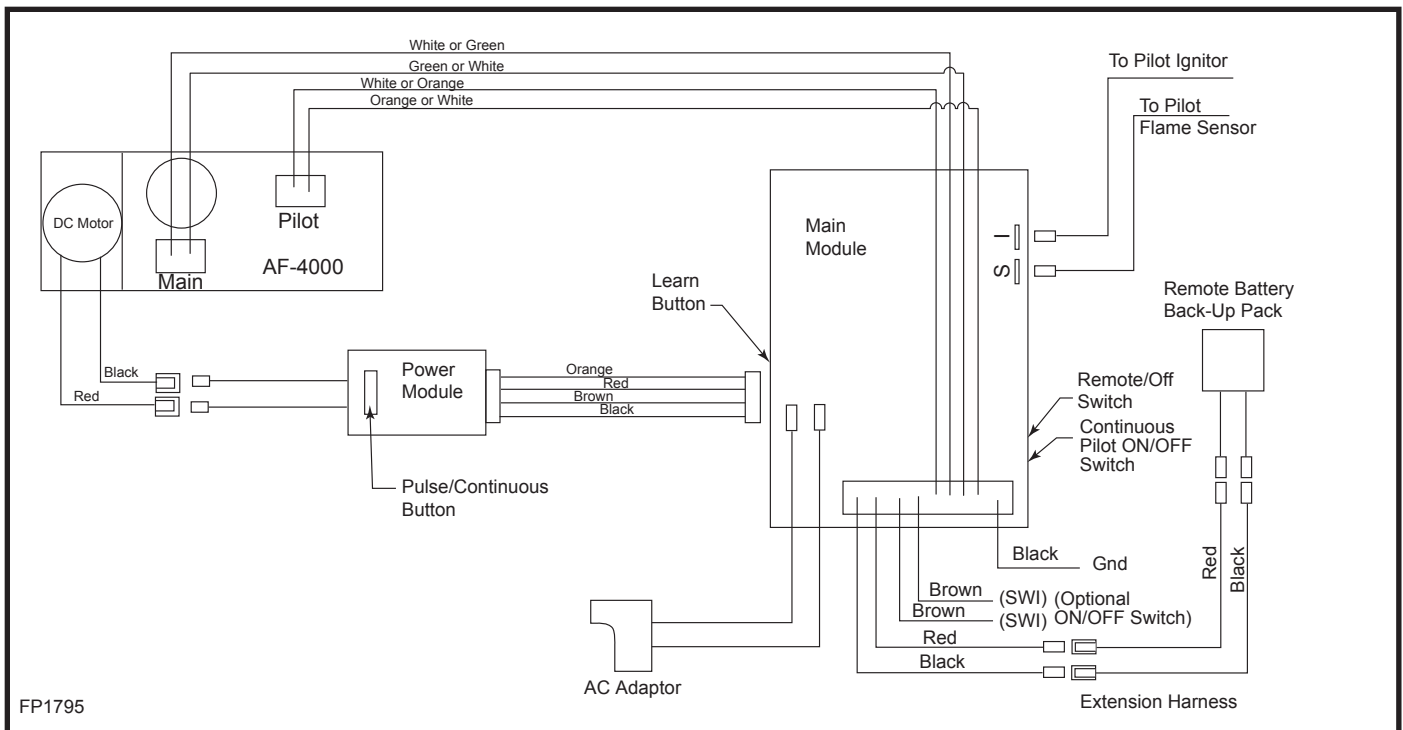

Fig. 9 DVT38S2 wiring diagram.
14. Remove the battery door on the back of the hand held remote control and install two (2) supplied "AAA" batteries. Be sure to note correct polarity. Replace battery door.
15. Locate the learn button on the main module. (Fig. 9) Press and release the learn button using a pencil point. There will be a beep sound from the module. Then press any key on the remote control transmitter. Once the module's internal receiver accepts the transmitter code, there will be a series of confirming beeps.
18. Insert the supplied four (4) "AA" batteries into the battery older. Be sure to note correct polarity for each battery.